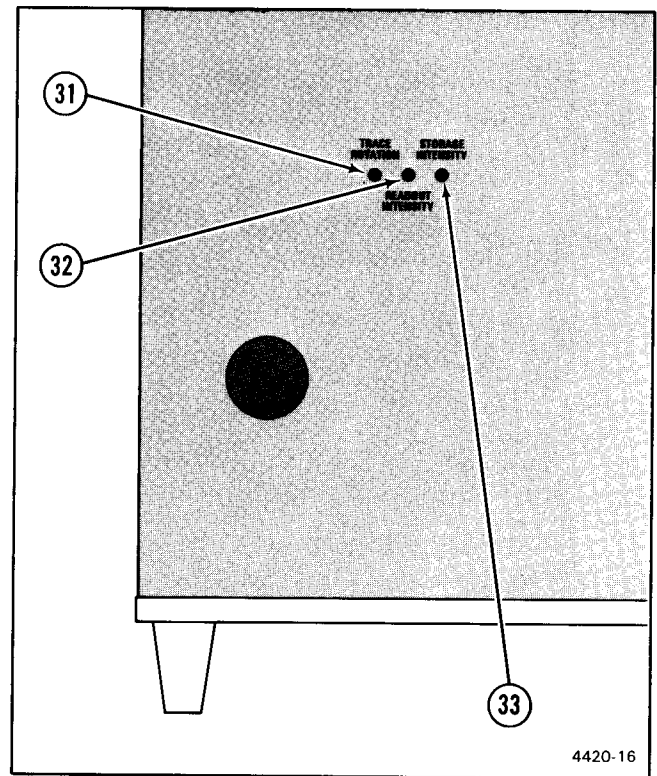

Figure 2-11. Bottom panel controls.
Refer to Figure 2-11 for location of items 31 through 33.